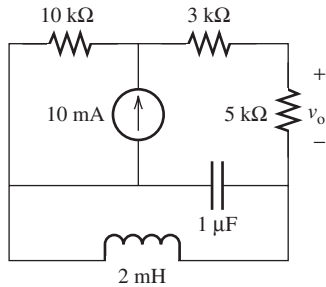

FIGURE P4.35 Circuit with capacitor and inductor.
4.35 (A)* Find v_o in the circuit given in Figure P4.35.